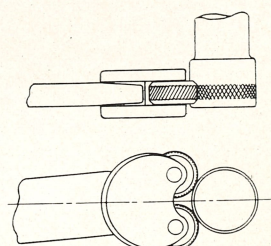

Fig. 12
**KNURLING.** Occasionally it is desired to knurl a handle, etc., on a lathe. For this purpose a special knurling tool (See Figs. 12 and 28) is used. Place this tool in the tool post and run it up against the work as near the center as possible. Start on the right end. Force the tool into the work slightly, set the longitudinal feed, and let it feed across the work. Do not remove the tool, but force it into the work a little more and let it feed back to the starting point. Repeat this process until knurling is finished. Use plenty of oil on the tool during the operation.